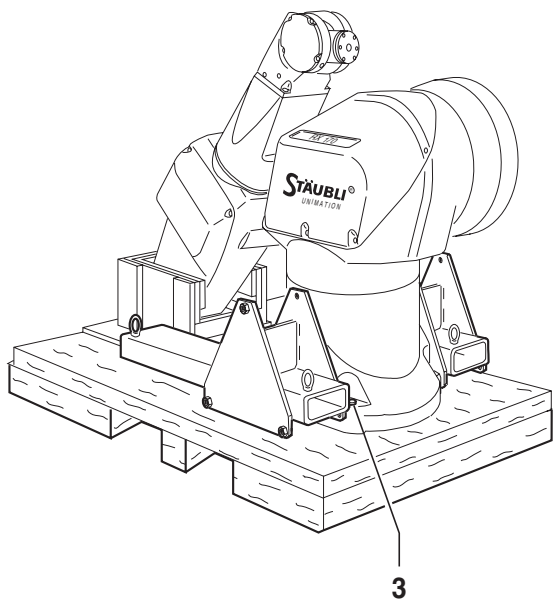
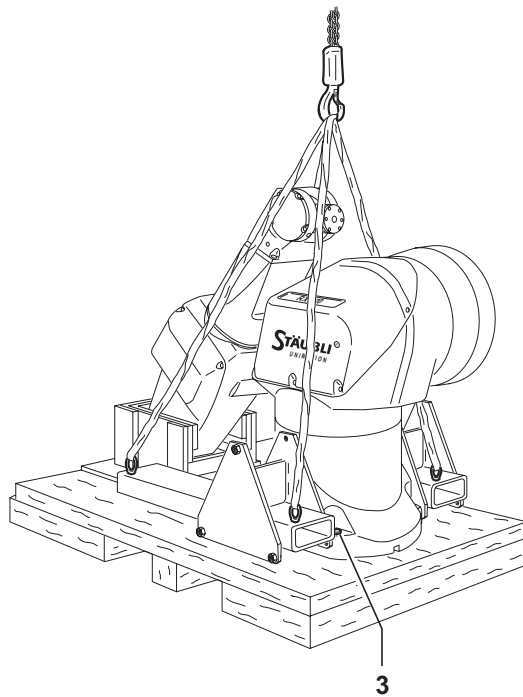

Figure 3.2
Figure 3.3
3.4.1. HANDLE WITH A FORKLIFT TRUCK (figure 3.2)
- Remove the 4 M20 (3) bolts from the arm.
3.4.2. HANDLING WITH A HOIST (FIGURE 3.3)
- Remove the (3) bolts from the arm.